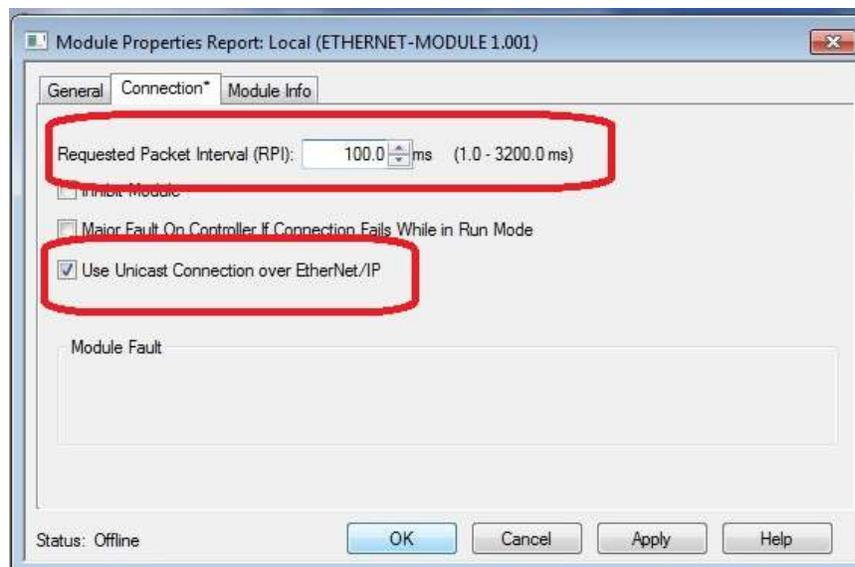

Figure 8 Enter Requested Packet Interval
2.2.1.4. Right click on the EN Ethernet module in the project explorer tree and select **Properties**. In the **Module Properties** window, click on the **Connection** tab. Enter the **Requested Packet Interval (RPI)**, as shown in Figure 8. For this example, **100 (ms)** is entered. Check the box **Use Unicast Connection over EtherNet/IP**. Click on **OK** to confirm.